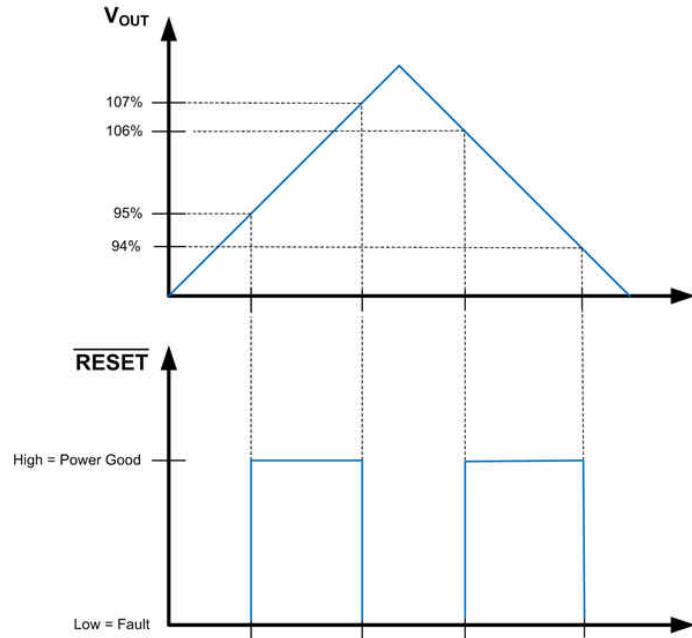
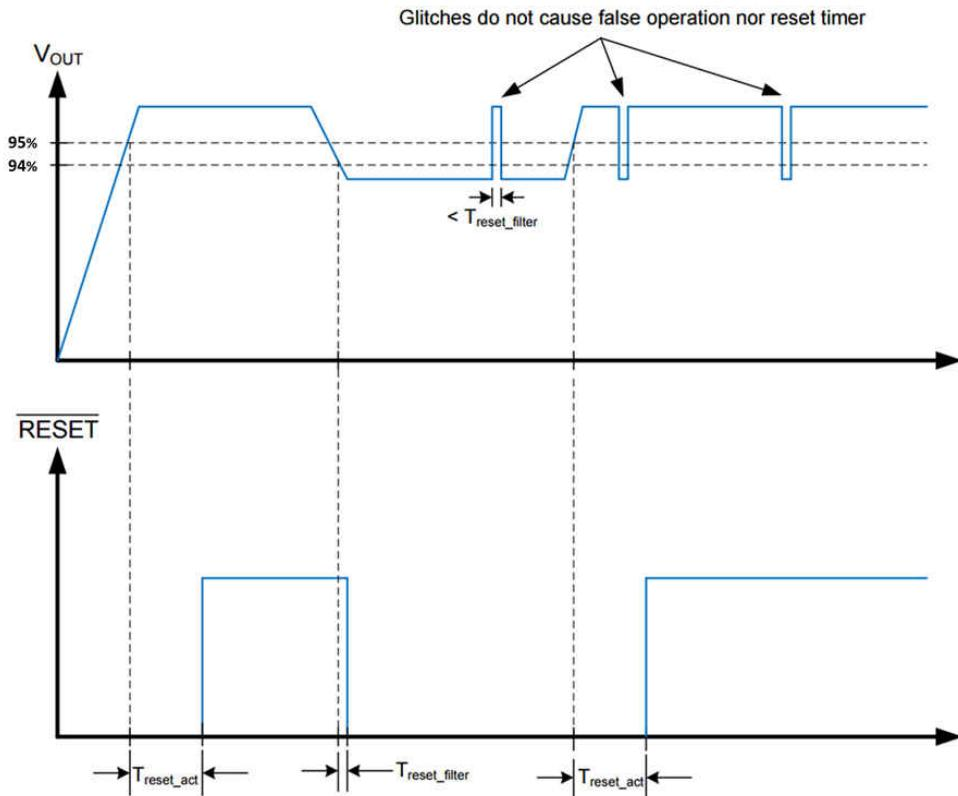

图 8-2. Static RESET Operation
图 8-3. RESET Timing Behavior
The **RESET** function, built into the LM53625/35-Q1, has special features not found in the ordinary Power-Good function. A glitch filter prevents false flag operation for short excursions in the output voltage, such as during line and load transients. Furthermore, there is a delay between the point at which the output voltage is within specified limits and the flag asserts Power Good. Because the **RESET** comparator and the regulation loop share the same reference, the thresholds track with the output voltage. This allows the LM53625/35-Q1 to be specified with a 96.5% maximum threshold, while at the same time specifying a 94 % worst case threshold with respect to the actual output voltage for that device. This allows tighter tolerance than is possible with an external supervisor device. The net result is a more accurate Power-Good function while expanding the system allowance for transients, and so forth. **RESET** operation can best be understood by reference to 图 8-2 and 图 8-3. The values for the various filter and delay times can be found in 节 7.7. Output voltage excursions lasting less than $T_{RESET-filter}$ do not trip **RESET**. Once the output voltage is within the prescribed limits, a delay of $T_{RESET-act}$ is imposed before **RESET** goes high.
- A delay has been added for release of reset. See 图 8-2 and 图 8-3 for more detail.